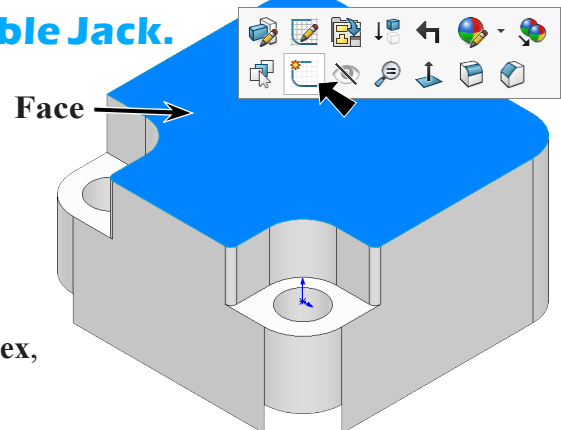

Fig. 32
Step 1. Click the top face and click Sketch  on the context toolbar, Fig. 32.